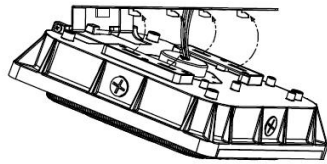

Figure 10
5. Rotate the luminaire body up towards the mounting plate, and slide the mounting plate hooks into the slots on the luminaire body. Then, slide the luminaire body away from screw A to securely engage the mounting plate hooks in the slots. See Figure 10.